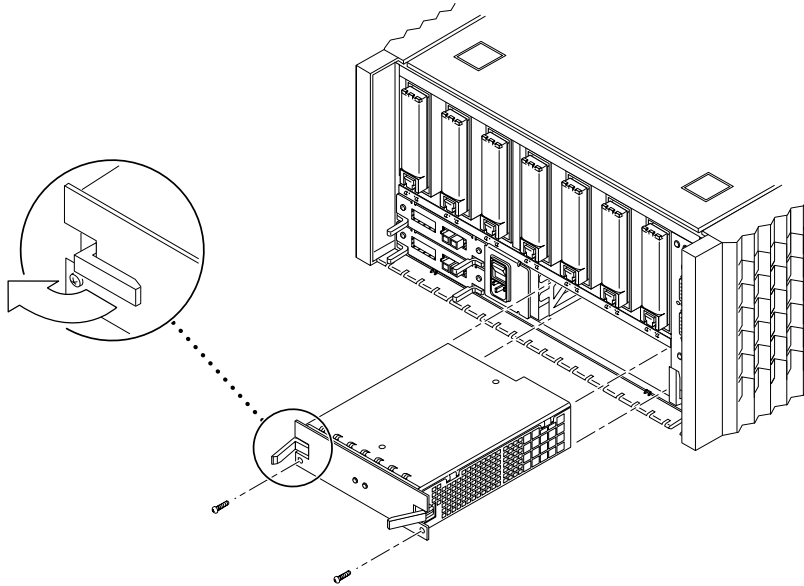

FIGURE 7-12 Removing a Power Supply
2. Use the Phillips screwdriver to remove the screws (FIGURE 7-12).